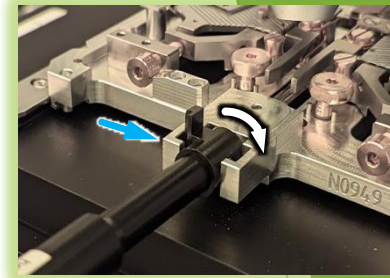

Fig 1: UNLOCKED!
- Insert holder lock driver down into hook slot  with extended arm upwards (Fig 1), push to engage recessed flat head end with vertical locking screw slot,  then rotate 90 deg CW to lock holder (Fig 2). Remove driver.
- Insert holder lock driver with arm to the right (Fig 2) and engage with horizontal locking screw slot. Rotate 90 deg CCW to unlock holder from the stage (Fig 1). Remove driver